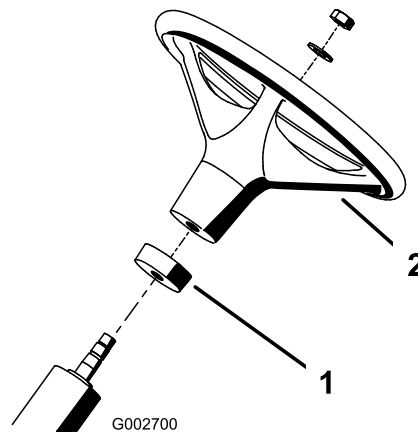

Figure 2
2. Slide the foam collar onto the steering shaft (Figure 2).
- Slide the steering wheel onto the steering shaft (Figure 2).
- Secure the steering wheel to the steering shaft with a washer and locknut (Figure 2). Torque the locknut to 20–26 ft-lbs (27–35 N·m).